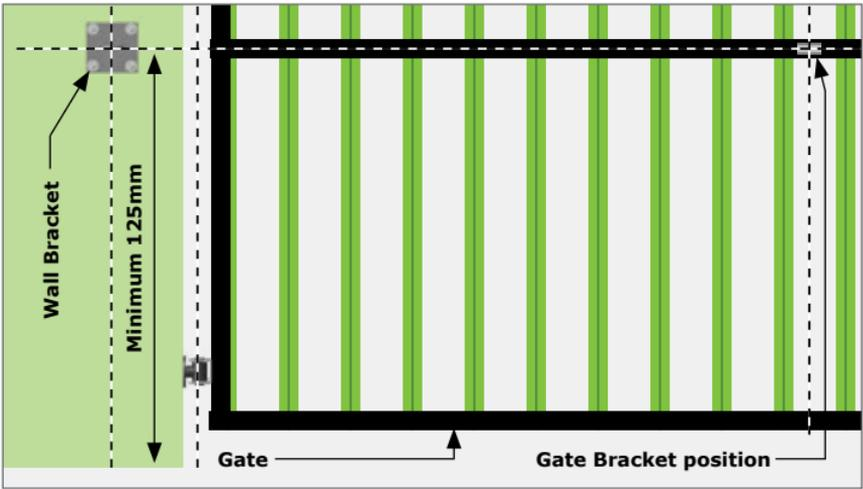

FIGURE 17. WALL BRACKET HEIGHT
1. Mark the calculated length required on the Wall Bracket taking the B-Value, E-Value and Pillar shape into account as per Figure 17 above.